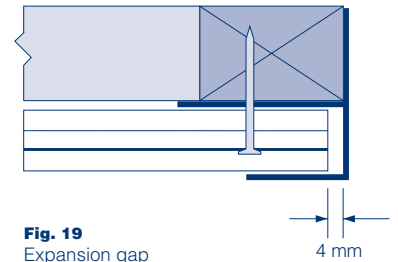

Fig. 19
- Allow a 4mm clearance at each end for expansion (where joint covers are used, their spacing lugs will automatically provide 4mm clearance between adjacent plank lengths). See figure 19.